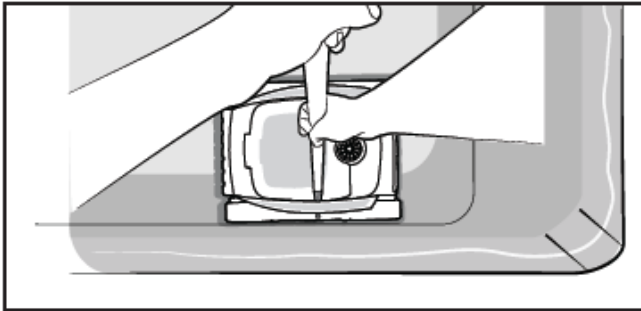

Figure 7. Secure the Hook
2. Secure the hook on the cleaner handle. Bring the cleaner to the waterline. (FIGURE 7)